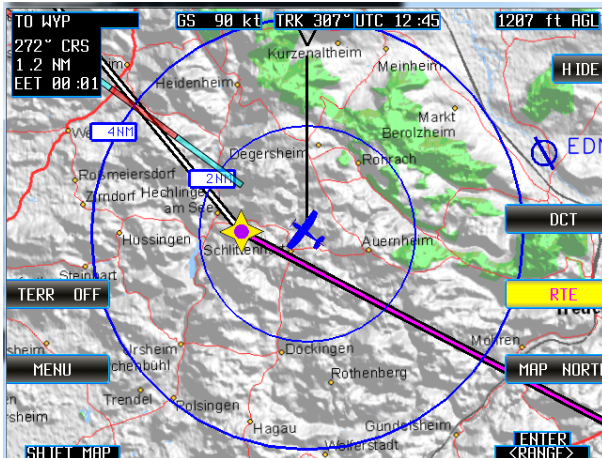

Figure 49: "RTE", Route activated
- The name of the next waypoint is displayed (Figure 49).